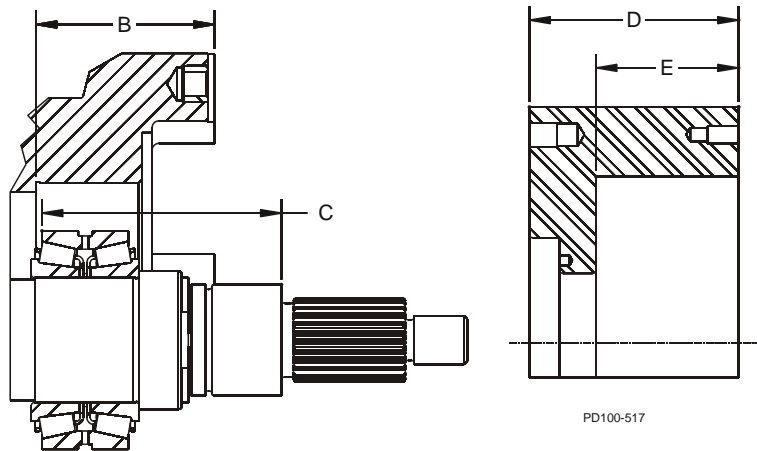

Figure 52 - Measurements for calculating required shims
4. **If necessary, calculate the required shims for the replacement shafts, bearings or both** by referring to Figure 52; carry the measurements and calculations to three decimal places (i.e. 0.059).
Table 6: Callout table for Figure 52